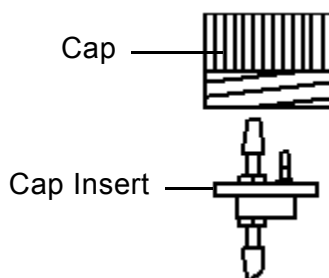

Figure 19. Cap Insert
- 4 Place the cap insert into the supplied plastic cap (see Figure 19), screw the cap onto the waste container and attach the drain tubing to the large barb fitting.